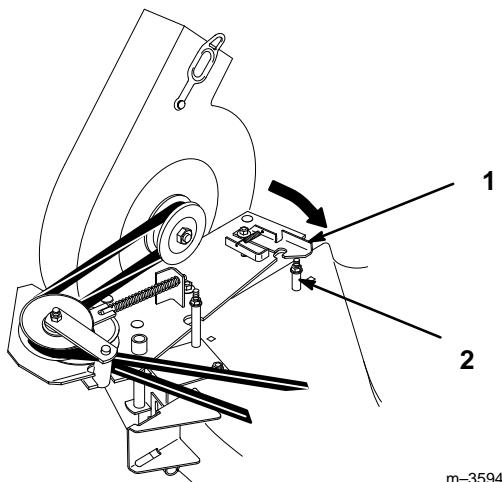

Figure 17
3. With the belt installed, swing the blower toward the mower until the blower latch locks over the pin at the back of the mower (Fig. 17).